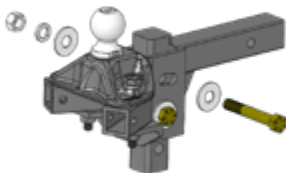

Figure 4
4. Use the $\frac{5}{8}$ " bolts, flat washers, lock washers and nuts to secure the head to the shank at the correct height. Hand tighten the nuts. (Figure 4)